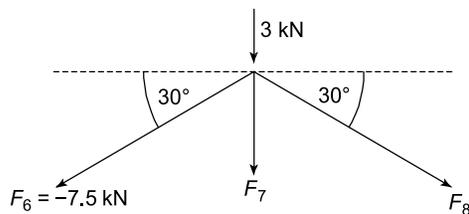

Figure 6.38
Consider joint (4); see Figure 6.38.